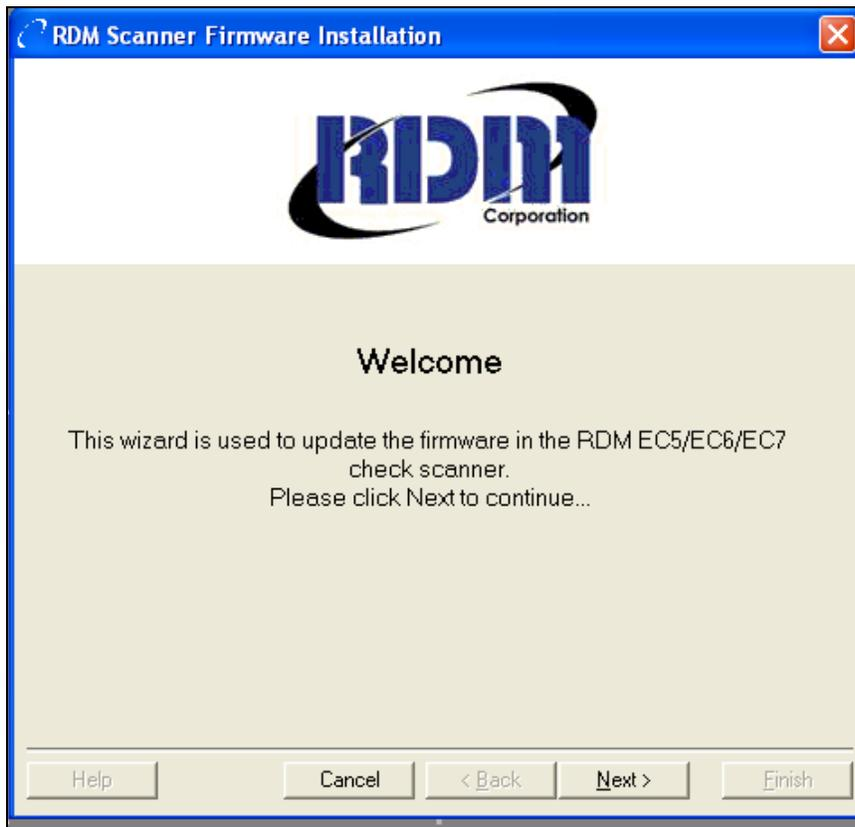

Figure 6.10.9
4. Click 'Yes' to install the new version. The Firmware Install screen window opens (Figure 6.10.9).